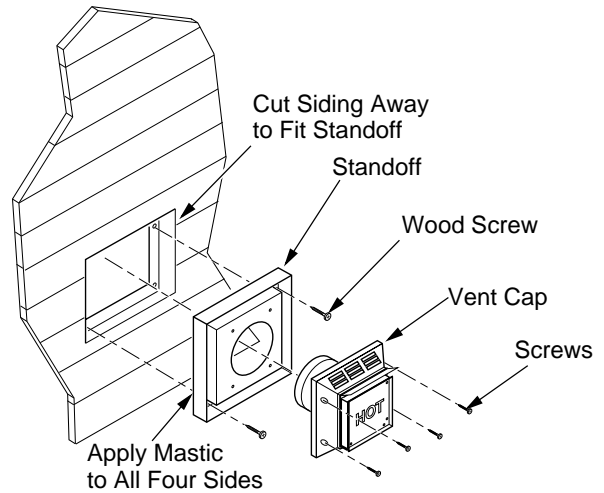

Figure 11 - Installing Siding Standoff (Combustible Exterior)
**Combustible Exterior Wall:** For vinyl siding, stucco, or wood exteriors, a siding standoff may be installed between the vent cap and exterior wall. The siding standoff prevents excessive heat from damaging the siding materials. Siding material must be cut to accommodate standoff. Bolt the vent cap to the standoff. Apply non-hardening mastic around outside edge of standoff. Position the standoff/cap assembly in the center of the 10 3/4" square hole and attach to exterior wall with wood screws provided (see Figure 11). The siding standoff must sit flush against the exterior fascia material.